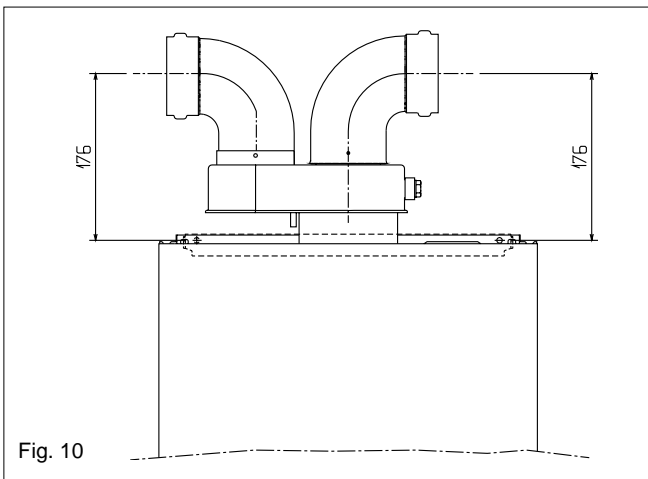

Fig. 10
**4.5.3.1 INSTALLATION OF CONCENTRIC TO TWIN ADAPTOR KIT (see fig. 10)**